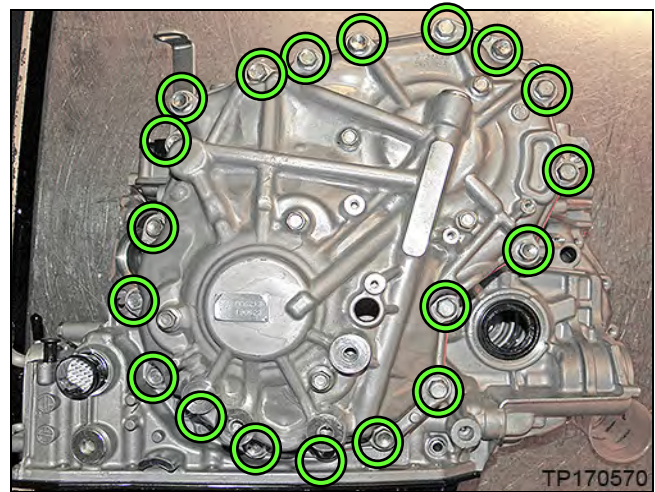

Figure 6E
5. Remove the nineteen (19) side cover bolts (Figure 6E).